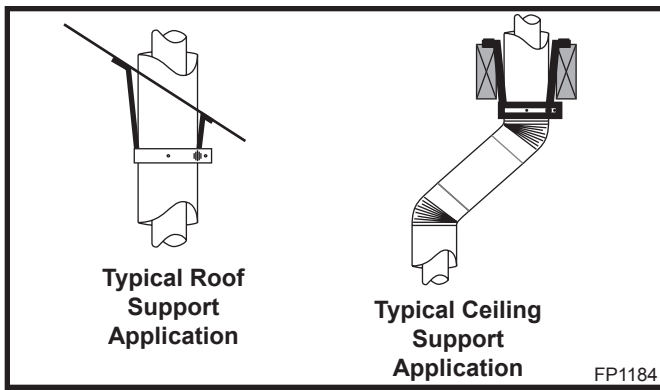

Fig. 42 Venting supports.
- 7DVCS supports offsets. (Fig. 42) This application will require that you first determine the roof pitch and use the appropriate starter kit. (Refer to Venting Components List)
7. Install roof support (Fig. 42) and roof flashing making sure upper flange is below the shingles. (Fig. 44)